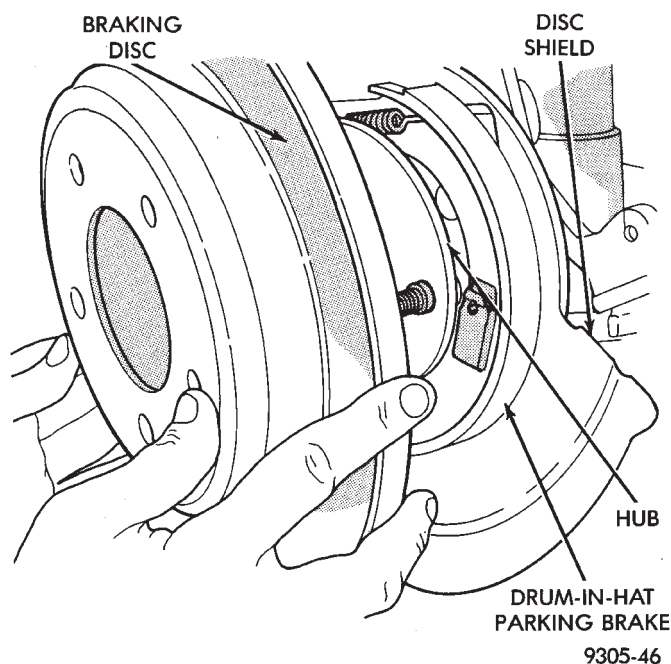

Fig. 4 Removing Rear Braking Disc
(6) Remove the rear braking disc (rotor) from hub, by pulling it straight off the wheel mounting studs (Fig. 4).